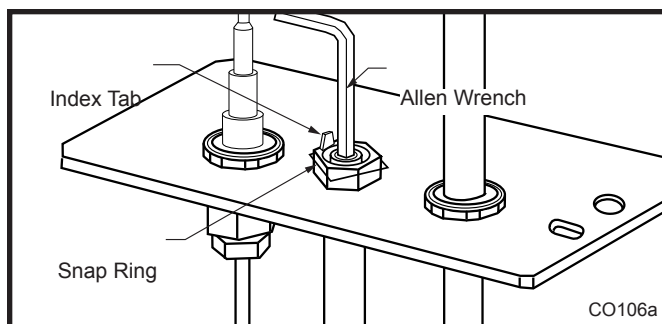

Fig. 53 Remove pilot orifice.
- Remove pilot orifice with allen wrench. (Fig. 53)